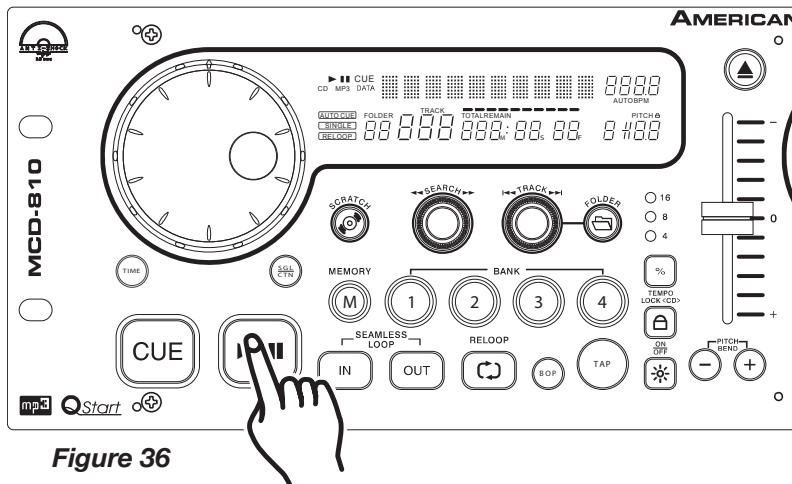

Figure 36
- 1) Press the **PLAY/PAUSE BUTTON (22)** so music is playing (Figure 36).